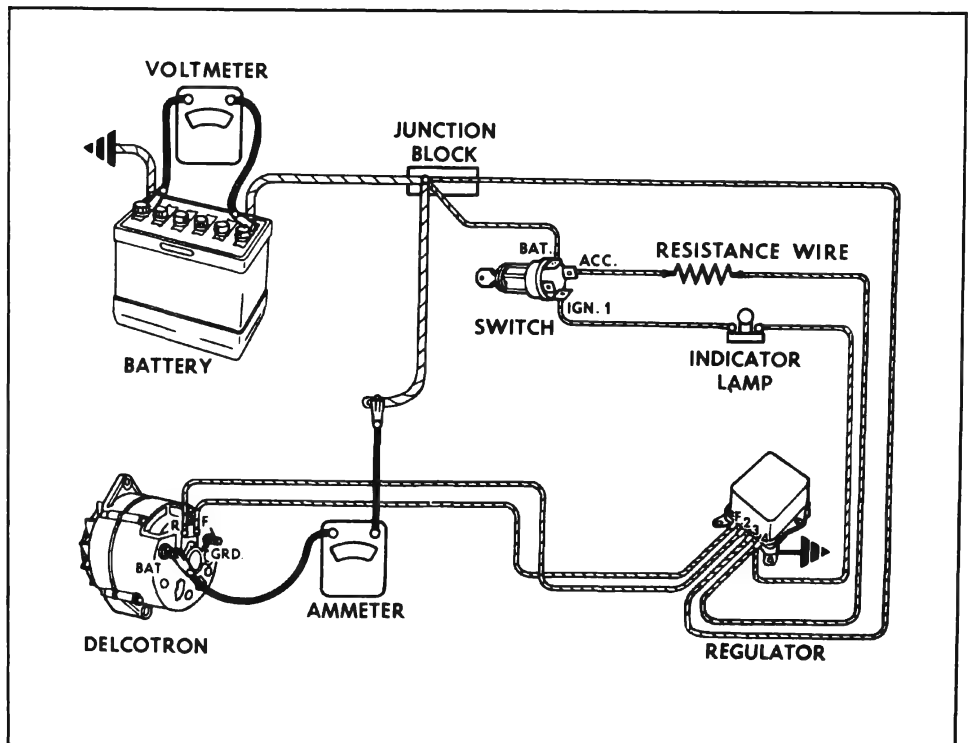

Figure 10-20—Delcotron Generator Tests
3. Connect ammeter between generator "BAT" terminal and disconnected lead as shown in Figure 10-20.
1. Test current output as described above. See Figure 10-20. Leave all test instruments in place, but make sure field jumper is removed, if used.